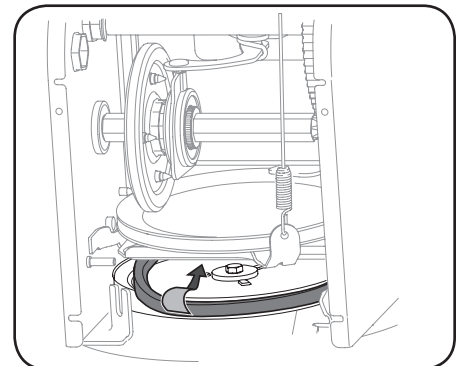

Figure 4-19
9. Remove belt from around auger pulley, and slip it between support bracket and auger pulley. See Figure 4-19.